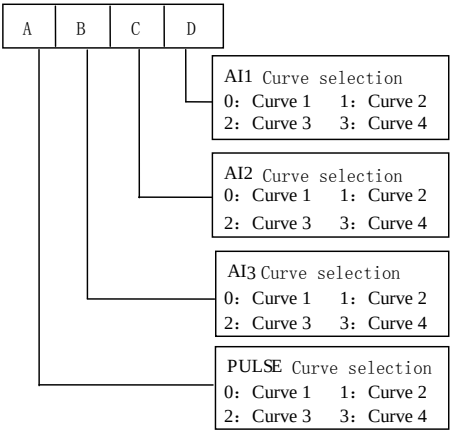

Fig.6-9 Frequency curve selection
Analog input value(A) is a percentage without unit, and 100% corresponds to 10V or 20mA. Pulse frequency(P) is also a percentage without unit, and 100% corresponds to the Max pulse frequency defined by A6.10. The time constant of the filter used by the reference selector is defined in Group A6. A3.00 is used to select the analog input curve and pulse input curve,as show in Fig.6-9.